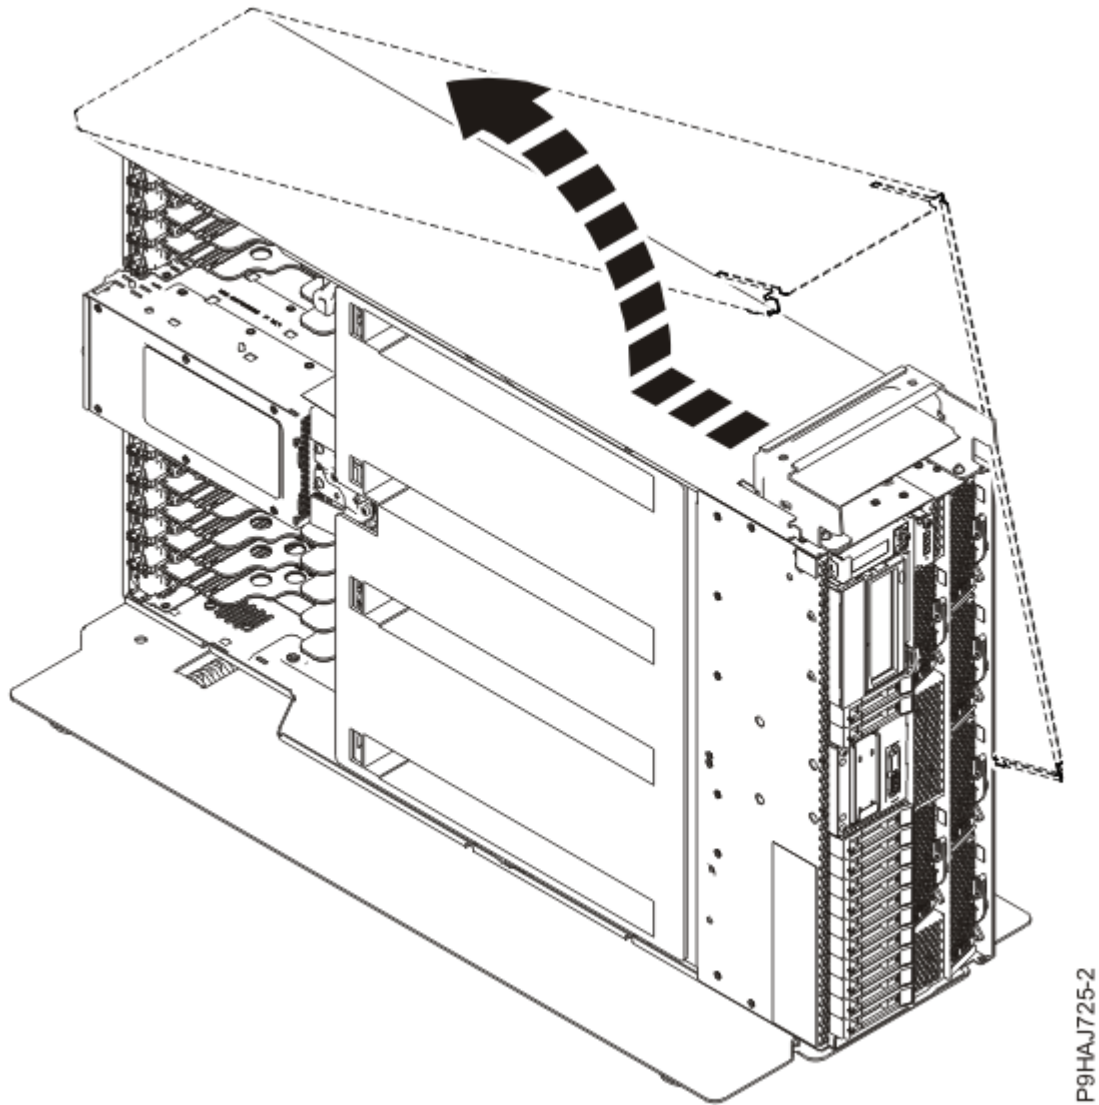

Figure 12. Removing the side cover
6. Slide the side cover off of the system in the direction that is shown in Figure 12 on page 27.